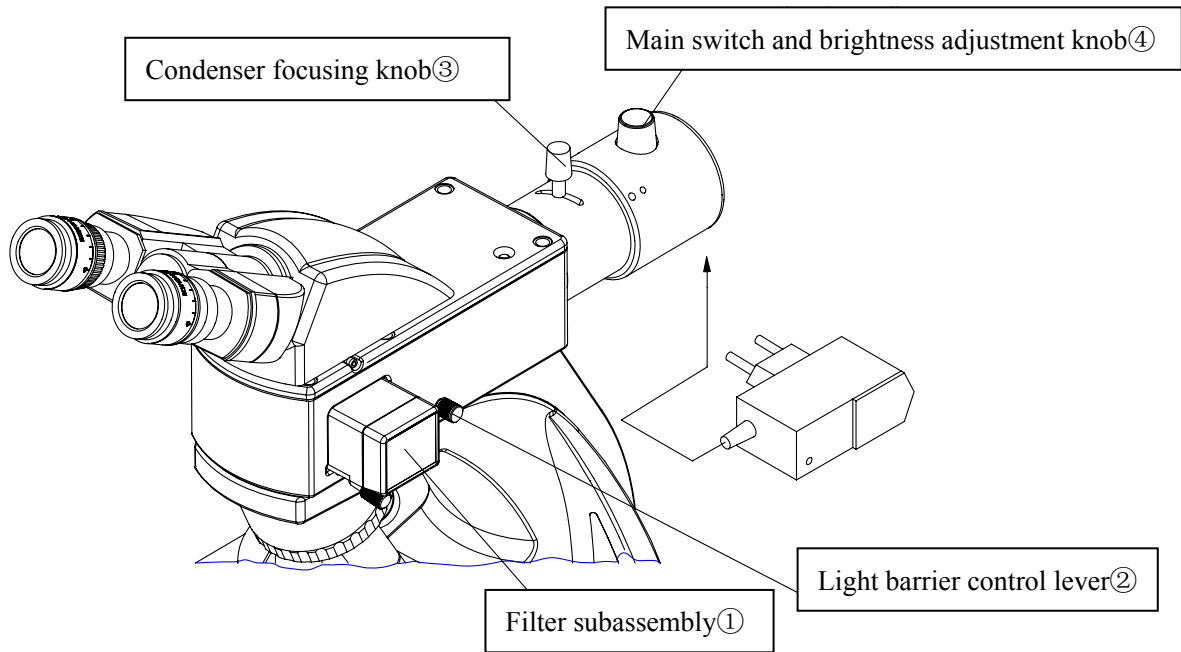
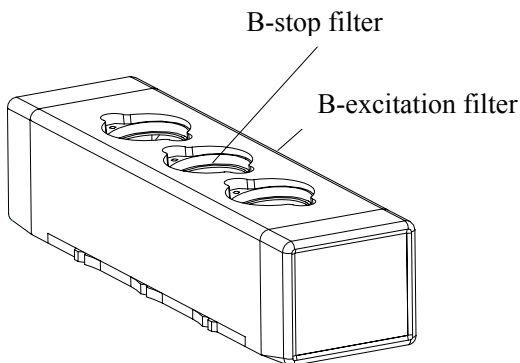

Fig.4
Fig.5
3.2 Fluorescent Microscope Operation (Fig.4, Fig.5)